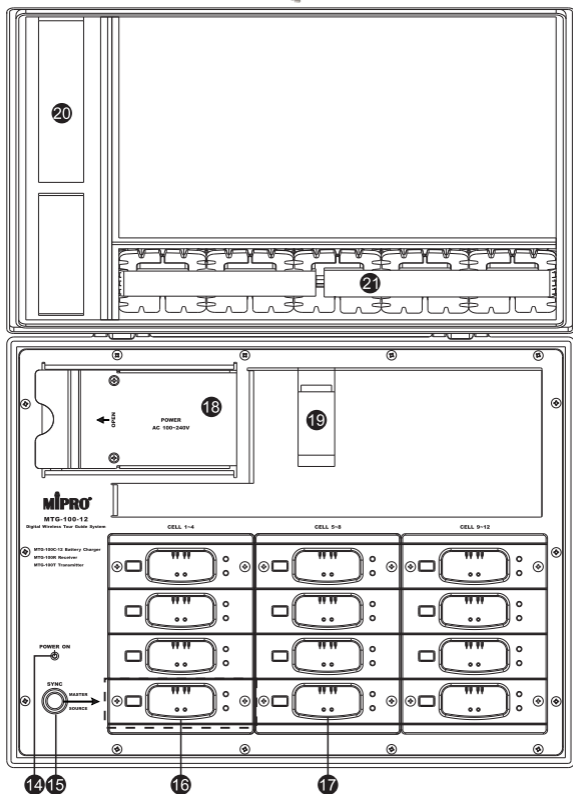

Fig. 19
4. MTG-100C-12 12-Slot Charger and Storage Case, Fig. 19: